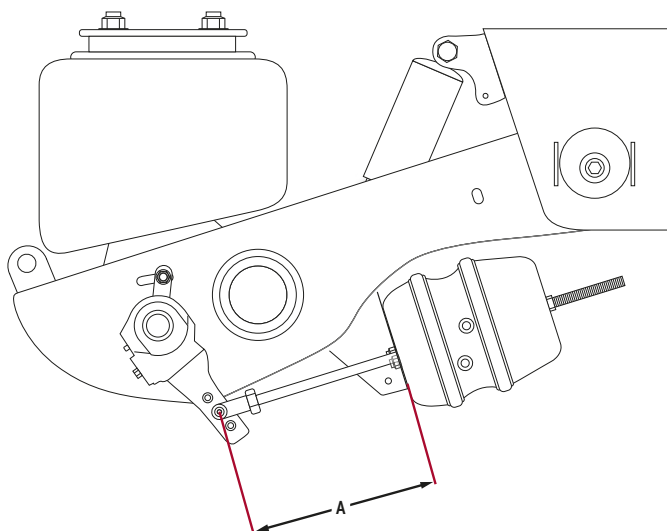

Figure 99: Brake Chamber Retracted Length = A
The distance measured from brake chamber to clevis pin (A) should be made with brake chamber fully retracted. This measurement is used when calculating brake **Free Stroke** and **Applied Stroke**. Refer Figure 99.